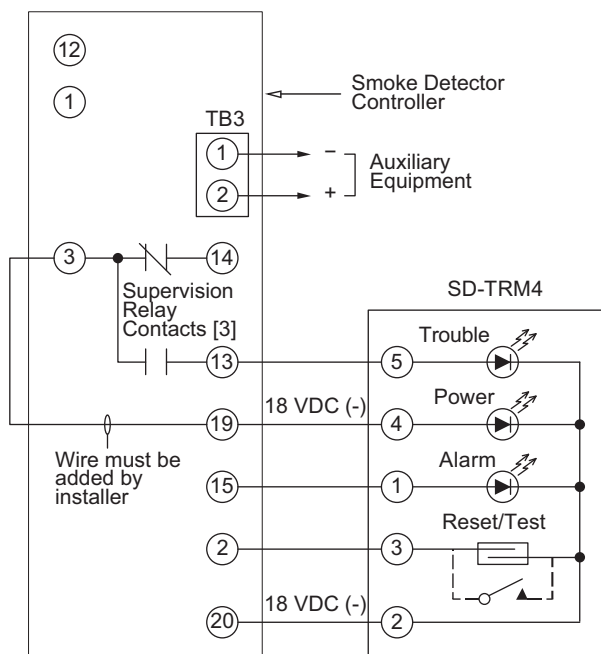

Fig. 50 — Remote Test/Reset Station Connections
The test/reset station dirty sensor test checks the test/reset station's ability to initiate a sensor dirty test and indicate the results. It must be wired to the controller as shown in Fig. 50 and configured to operate the controller's supervision relay. For more information, see "Dirty Sensor Test" on page 29.
1. Verify that the remote test/station is wired as shown in Fig. 50. Repair or replace loose or missing wiring.